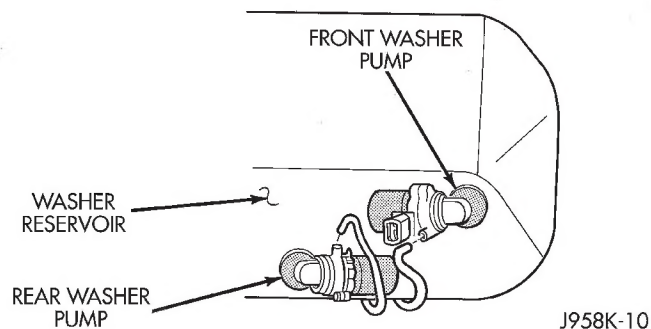

Fig. 16 Washer Pumps (LHD)
(2) Disconnect hose(s) from washer pump(s) (Fig. 16) and drain solvent from reservoir into a clean container for re-use.
(3) Use a deep socket and extension inserted through the filler neck to remove washer pump filter/nut from inside reservoir. Remove pump from reservoir.
(4) Reverse removal procedures to install.